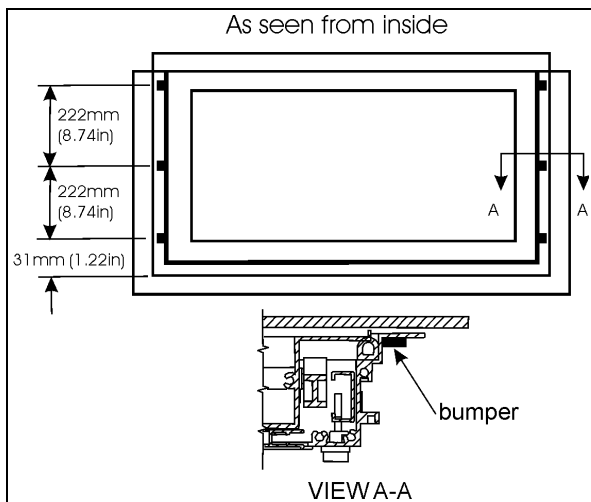

FIGURE 65: SIDE BUMPERS
2. Glue 6 rubber bumpers (#790602) on the awning window frame as per FIGURE 65;